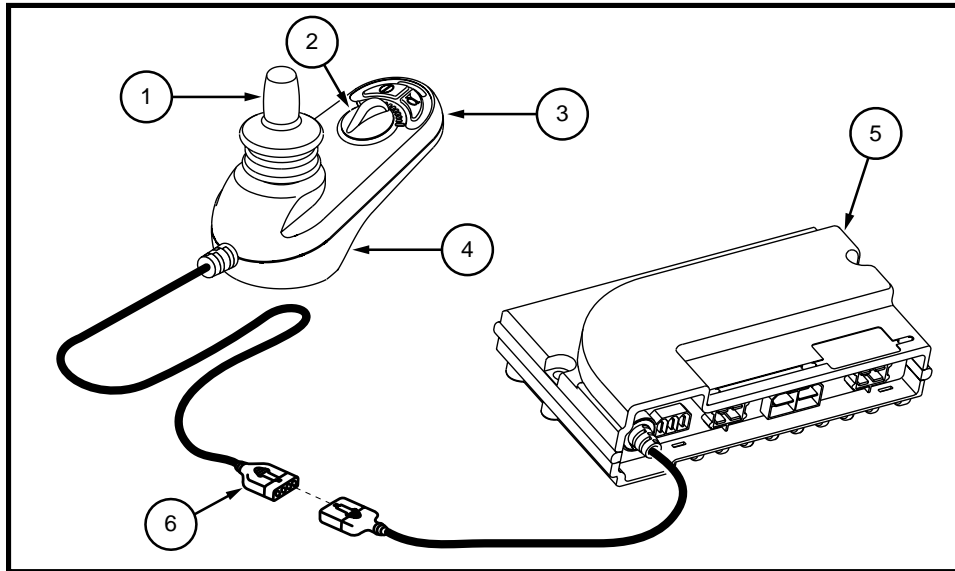

Figure 2. GC2 Controller
**The GC2 controller system consists of (see figure 2):**
The control panel is located directly in front of the joystick. It contains keys and a dial that you will use to control your power chair. See figure 2.